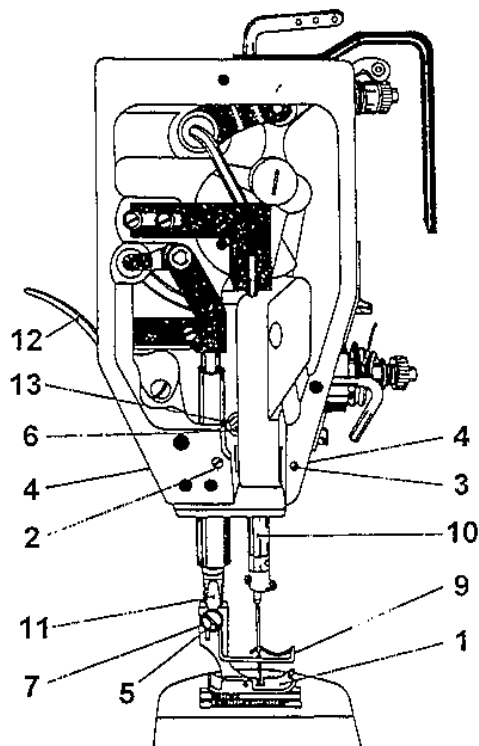

Fig. 9
8. To adjust in height the needle bar (Fig. 9)
14. To exchange the presser foot (Fig. 9)
16. To adjust the needle punches longitudinally into the centre of the slot of the throat plate (Fig. 9)